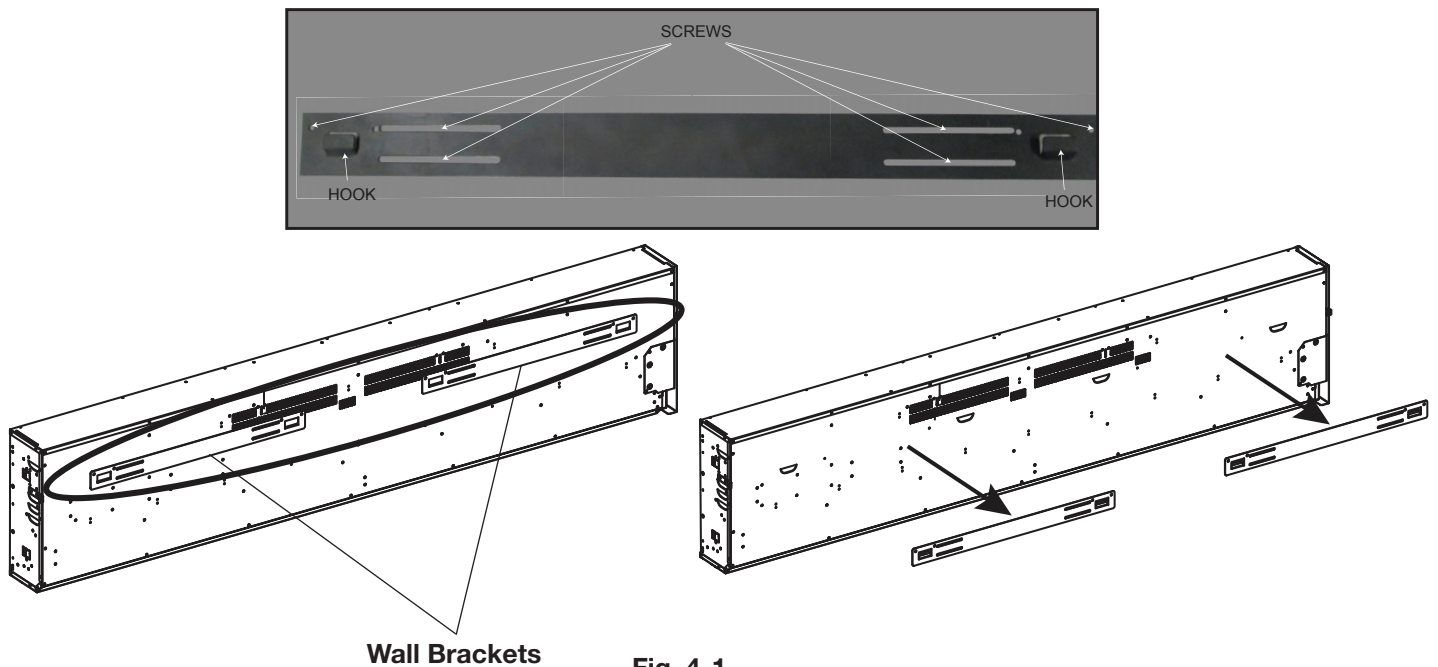

Fig. 4-1
3. Place appliance face down on a soft, non-abrasive surface. Remove the bracket from the back of the appliance by removing the screws (**Fig. 4-1**).